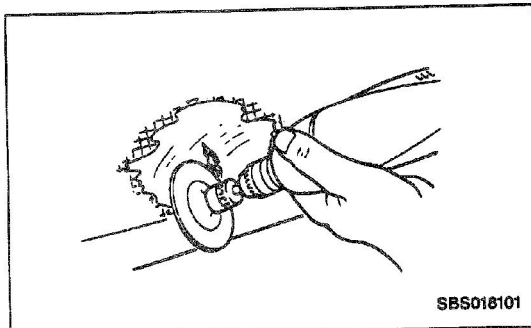

Figure 11—Tapering Substrate Surrounding Damage
**Figures 11 through 17**
1. Clean the repair area with a silicone, wax, or grease removing solvent such as Prep-Sol, Pre-Kleano, Acryli-Clean, or equivalent. Use a clean 51 to 76 mm (2 to 3-inches) #80 grit disc to enlarge the gouge or puncture in order to ensure removal of grease, oil, or dirt from the area to be contacted by the repair material (Figure 11). This action should also create at least a 38 mm (1.5-inches) taper around the repair material and